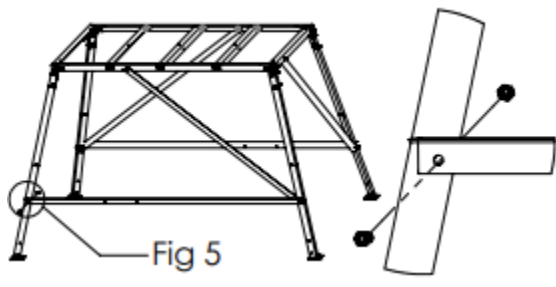

Fig 5
6. Attach the free end of 89 3/8" horizontal brace from step 5 to opposite leg using 1 - 3/8" x 1" bolt 1 - 3/8" nylon lock nut. Repeat on opposite side of base. Do not tighten these at this time. (Fig 5)